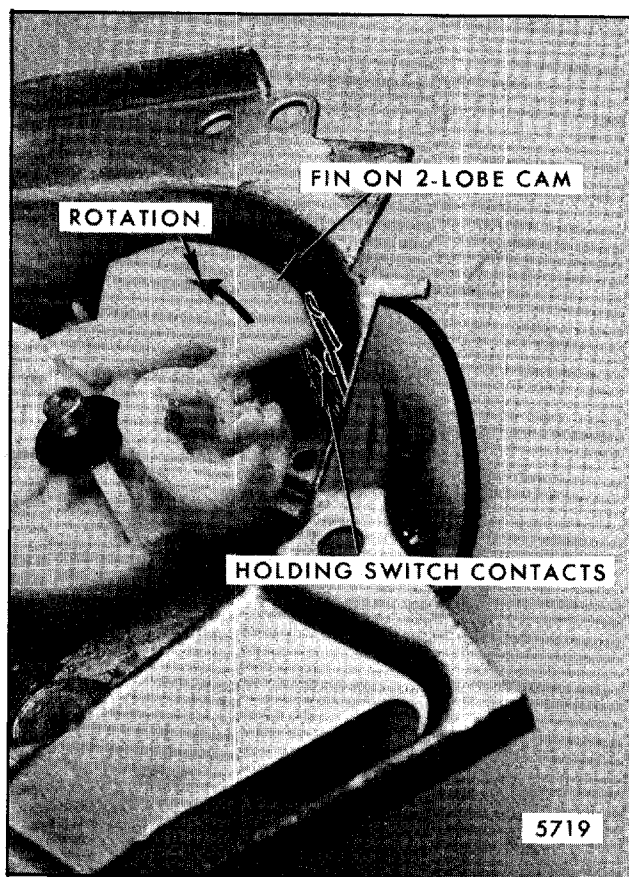

Fig. 2-112-Holding Switch Contacts
3. Holding switch - used in conjunction with the timing device to control the delay mode of operation. This switch is actuated by a fin on the washer pump drive cam (refer to Fig. 2-112).